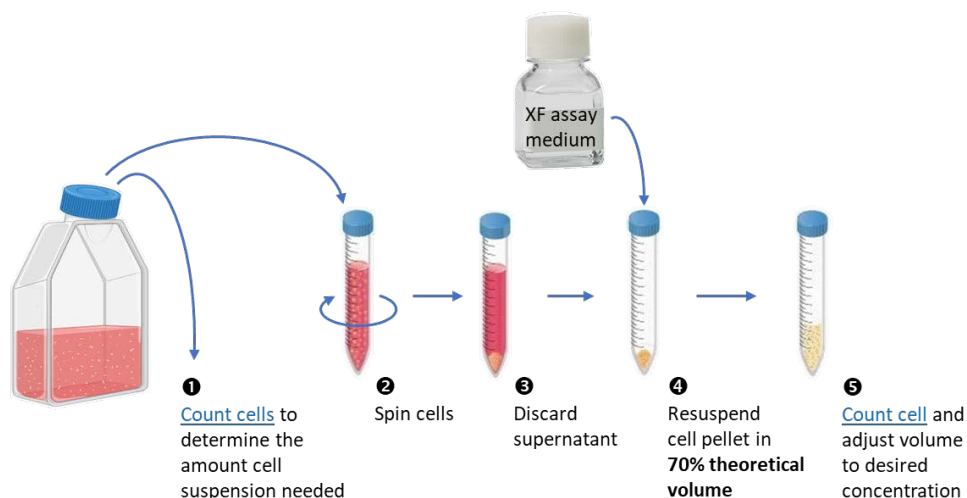

Figure 9. Suggested cell-preparation steps for cell seeding with T cells.
- Count cells twice: before centrifugation, and after resuspending cells in assay medium. The second counting in step 5 in Figure 9 is especially important to ensure accurate seeding density, and should not be omitted because some cells can be lost when discarding spent medium.